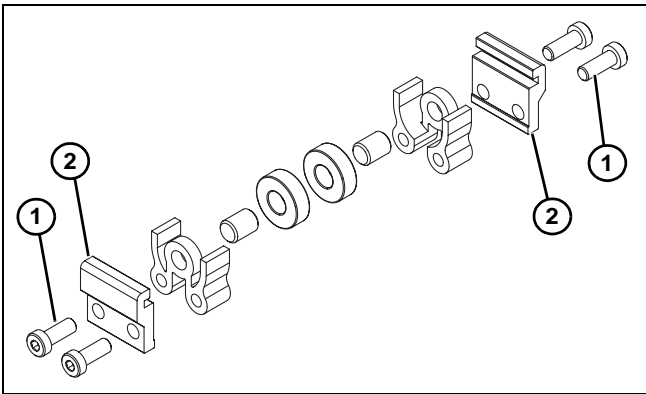
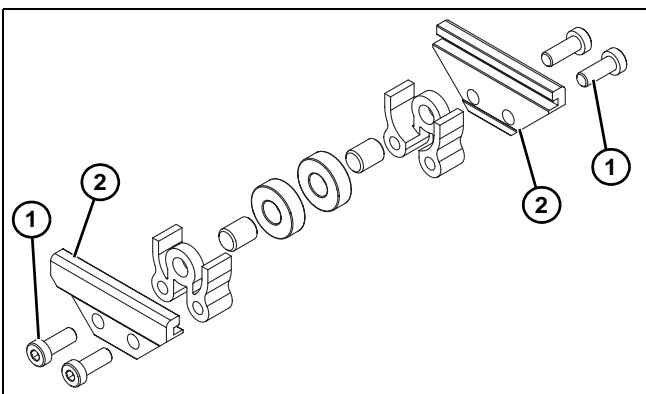

Figure 12
Figure 13
1. Locate return rollers. Exploded views shown in Figure 12 & Figure 13.
2. Remove screws (Figure 12, item 1) & (Figure 13, item 1) and clips (Figure 12, item 2) and (Figure 13, item 2) from roller assembly.